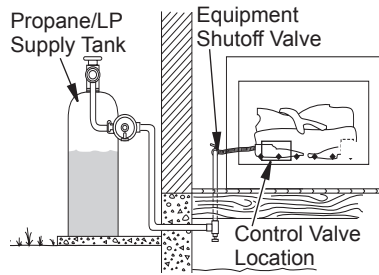

Figure 15 - Checking Gas Joints (Propane/LP Gas Only)
3. Check all joints from gas meter to equipment shutoff valve for natural gas or propane/LP supply to equipment shutoff valve for propane/LP (see Figure 15 or 16). Apply noncorrosive leak detection fluid to all joints. Bubbles forming show a leak.
4. Check all joints from equipment shutoff valve to gas control (see Figures 15 and 16). Apply noncorrosive leak detection fluid to all joints. Bubbles forming show a leak.